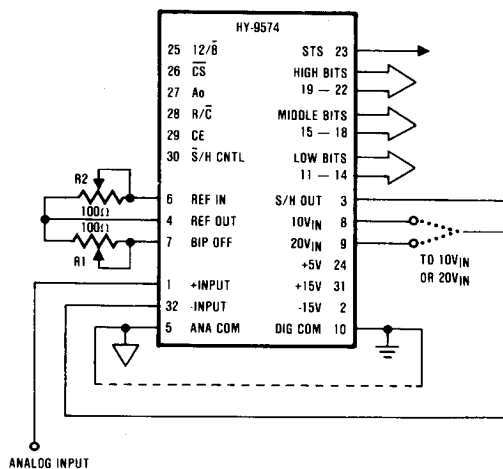

FIGURE 3. BIPOLAR INPUT CONNECTIONS
**Bipolar Connections and Calibration** — Refer to Figure 3. The gain and offset errors listed under Specifications may be adjusted to zero using potentiometers R1 and R2\*. If this isn't required, either or both pots may be replaced by a 50 $\Omega$ , 1% metal film resistor.